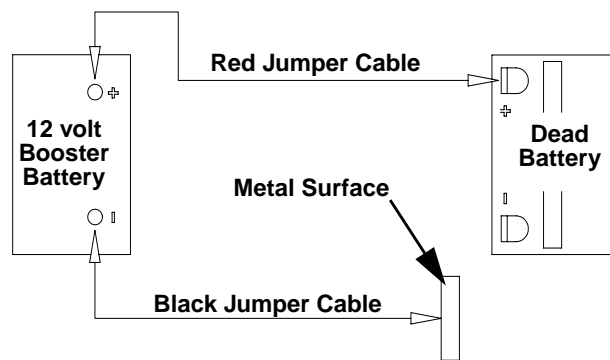

Figure 6-3
*Refer to Figure 6-3*
Refer to Figure 6-3